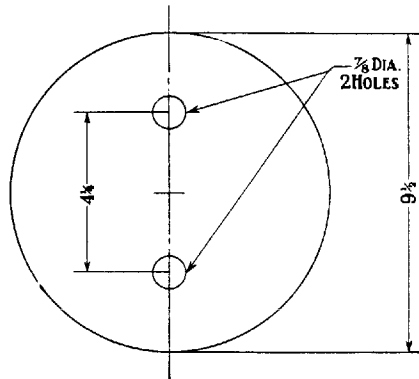
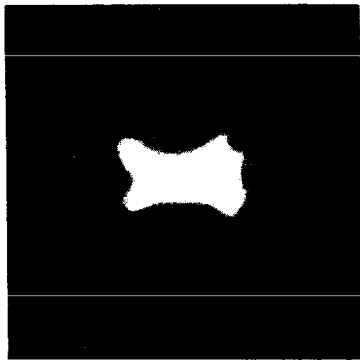
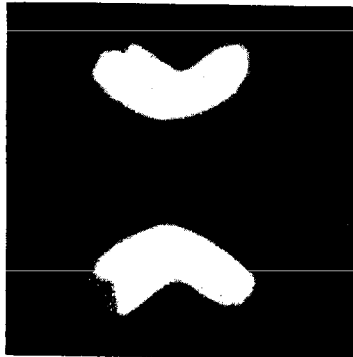
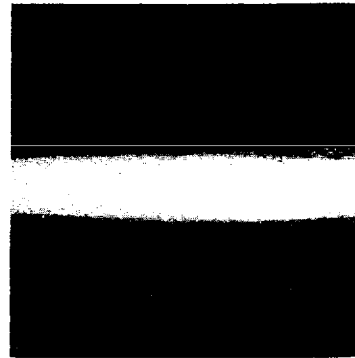

Fig. 57
Fig. 58
Fig. 59
Fig. 60
FOCUS. Cut out a piece of heavy paper or cardboard to the dimensions given in Fig. 57. Open the lamp door and hold this card against the front of the lamp so that the centers of the two holes in the card lie in a vertical plane. If the bulb is properly focused, the images of the bulb filament will appear as a solid spot of light as shown in Fig. 58. If the bulb is too close or too far away from the reflector, two images will appear as shown in Fig. 59. In this event the bulb should be adjusted until a single spot of light is shown, by turning the adjusting screw (20) at the side of the reflector.
beam. With the reflector in its normal upper position, the center of the spot of light as in Fig. 58 is $6\frac{1}{2}$ inches below the level of the center of the headlamp.
As a check on focal adjustment and alignment, the card shown in Fig. 57 may again be applied in front of the lens. If properly focused, a single band of light will appear on the wall as in Fig. 60.